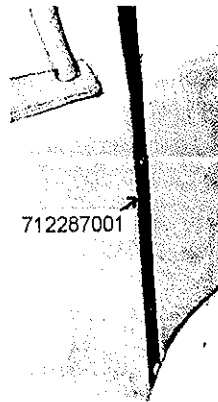

Figure 2
1. Attach bottom of door latch to fender using bolt in fender. Drill hole in fender through hole in door latch and attach to fender with 3/8" x 1 1/2" bolt. See Figure 2.
12. Attach bottom of door latch to fender using bolt in fender. Drill hole in fender through hole in door latch and attach to fender with 3/8" x 1 1/2" bolt. See Figure 2.